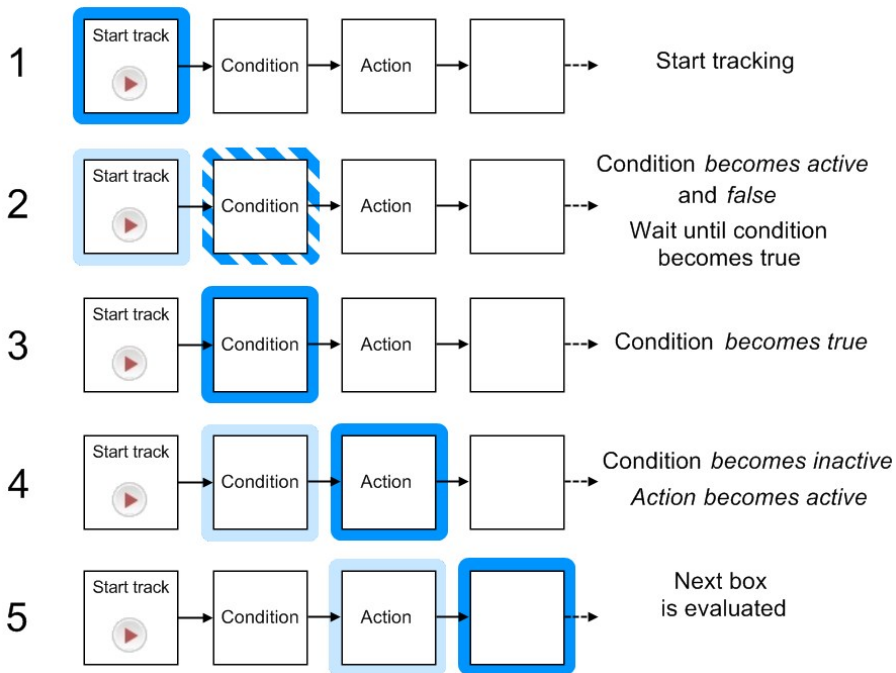

Figure 3 Schematic representation of how Trial Control Instructions are executed. The scheme shows an example of a Start-Stop trial rule (see page 47).
- For a **Condition** box. EthoVision XT waits until the condition is met. When this happens (condition *becomes true* - see 3 in Figure 3), the program passes control to the next box in the sequence. The condition becomes then *inactive* (see 4 in the same figure).
- For an **Action** box. EthoVision XT carries out the action (see 4 in Figure 3), and passes control to the next box, which *becomes active*. Then, the Action box *becomes inactive* (see 5).
When plotted against time (see page 189), events like those in Figure 3 look like as follows:
Figure 4 Time plot of the events of Trial Control represented in Figure 3. The time that the animal is in the zone "Top of Shelter" is indicated by a horizontal bar.
When tracking starts, the Action "Start track" becomes active (1st line) and immediately inactive (2nd line) as control passes to the next box. The condition "On top of Shelter?" becomes active (3rd line; see 2 in Figure 3) and immediately false (4th line) since the animal is not in that zone. When the animal enters the zone, the condition becomes true (5th line), and becomes immediately inactive (6th line) as control passes to the next box (see 4 in Figure 3). The action becomes active (7th line) and immediately inactive (8th line) as the command "drop a pellet" is sent to the pellet dispenser.